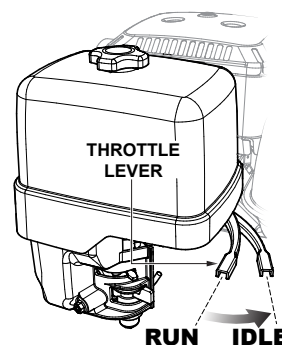

Figure 19. Throttle Lever (Idle)
1. Move the throttle lever to the **idle** position (Figure 19) and run the engine for three minutes at low speed.